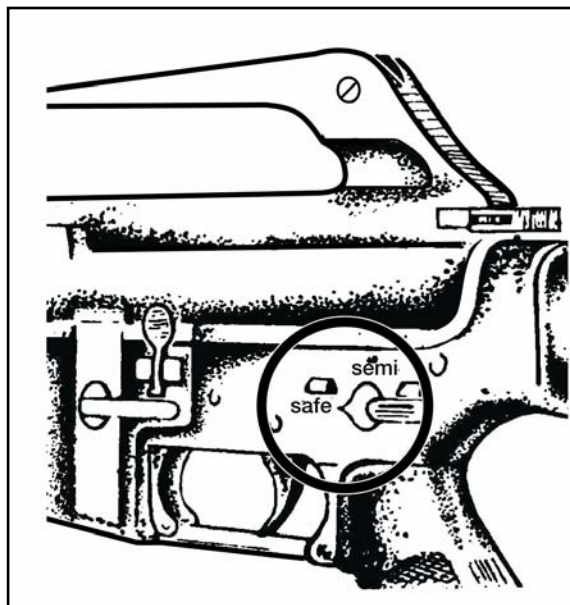

Figure 071-311-2025-1. Selector lever on safe
- c. Turn the selector to SAFE (figure 071-311-2025-1).